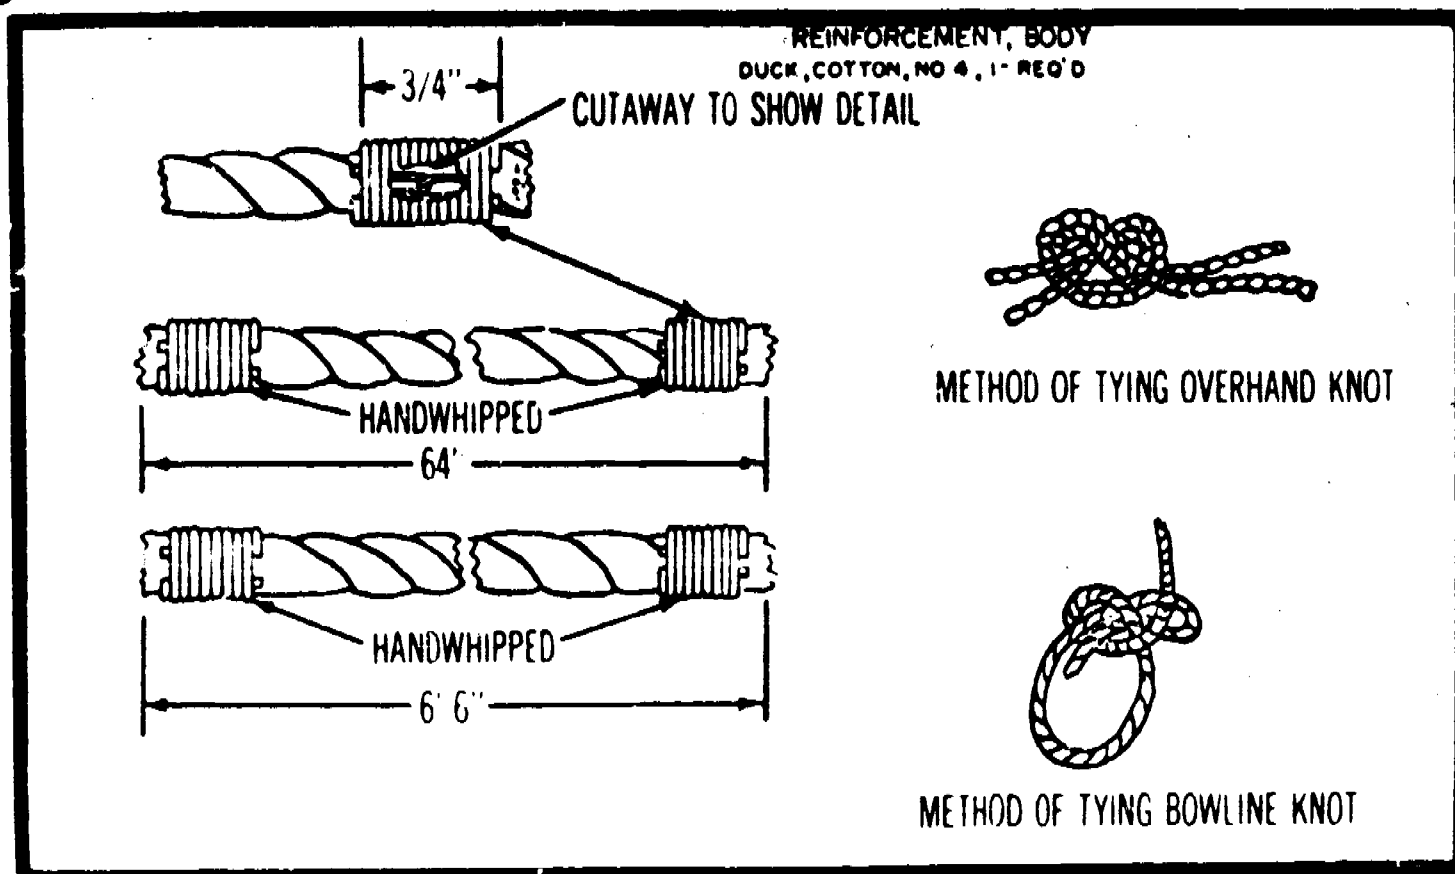

Figure 7-2. Hand whipped ropes.
c. Replacing or repairing rope. Replace ropes of incorrect lengths or ropes that have badly frayed ends, worn or broken strands. Repair rope with frayed ends by hand whipping (fig. 7-2).